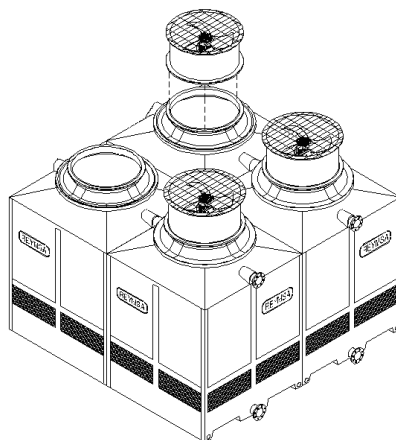

Figure A-41: Fan Duct Installation in a Fan Adaptor for a Quadruple Fan Tower
- D. If there is more than one fan, follow the same instructions from previous step to install remaining Fan Ducts (see an example in Figure A-41). Each Fan Duct is labeled with a number on the inside of the upper edge; for a correct installation, this number must match the number on the corresponding Fan Adaptor.